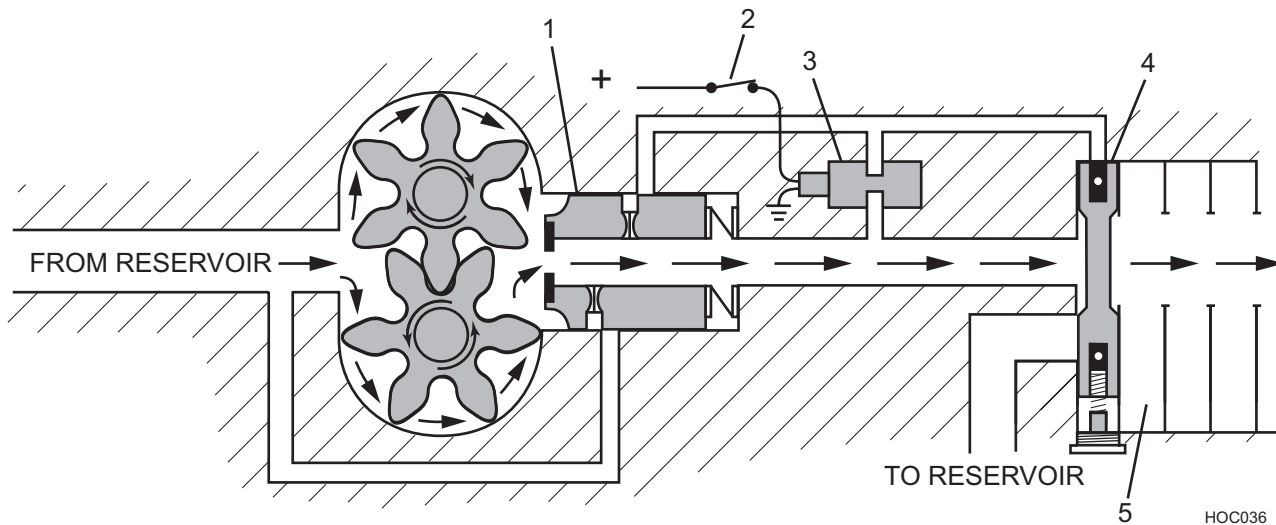

Figure 25
- Flow control not shifted (Figure 25, Item 1)
- Pump switch ON (Figure 25, Item 2)
- N.O. valve in CLOSED position (Figure 25, Item 3)
- Inlet unloader valve in WORK position (Figure 25, Item 4)
Oil from the pressure side of the pump will pass through the flow control to the inlet unloader valve allowing operation of the spool valve assembly (Figure 25, Item 5). Oil from the spool valve assembly then returns back to the reservoir.